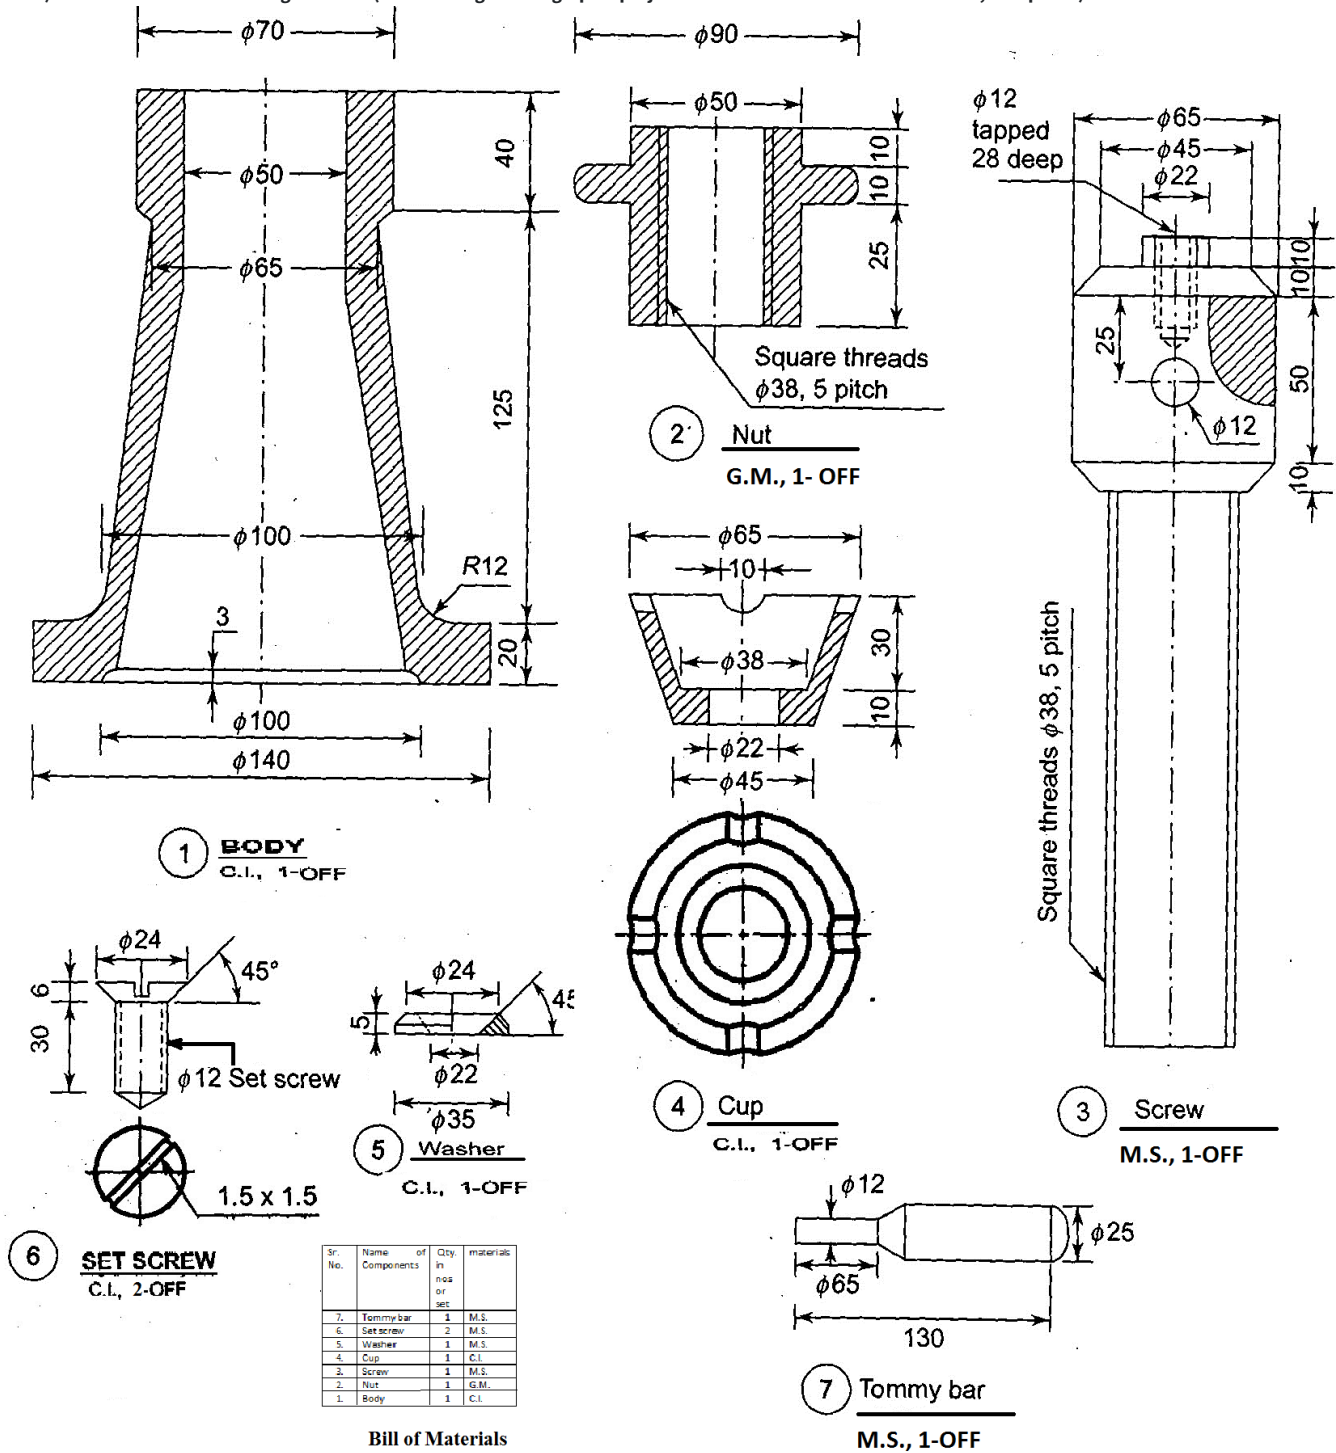

Fig. No. 5.a. Details of Power Screw Jack
a) Details of Power screw jack are shown in fig. no. 5.a. Complete the assembled view of all parts in respect of i) top view and ii) Full sectional front view along A-A and iii) L.H. S. V. and also including the BoM. (Use first angle orthographic projection method and use reduction scale, if required). [12]